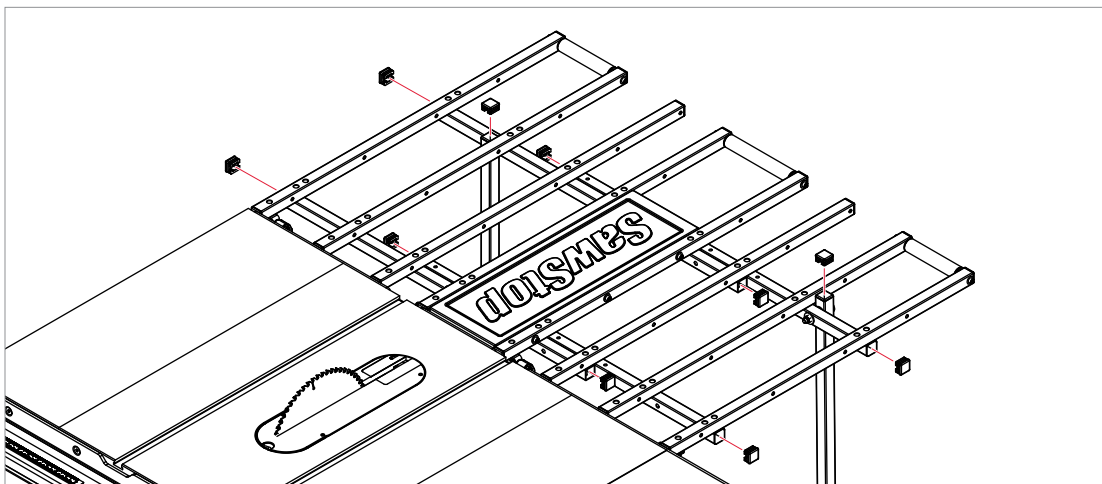

Fig. 27
- 21** Press a tube end cap into the top of both support legs and into the ends of the four table support tubes (see Fig. 27).